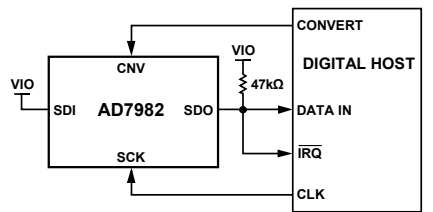
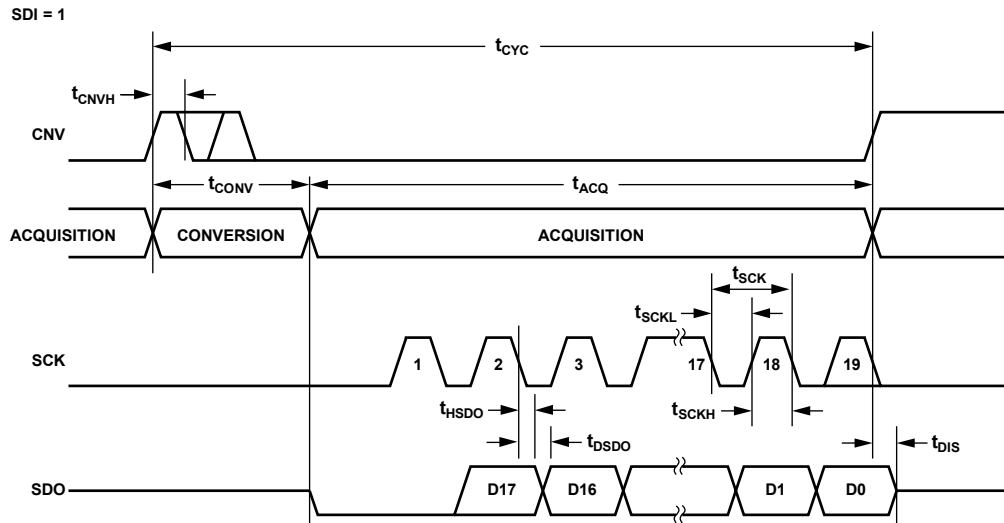
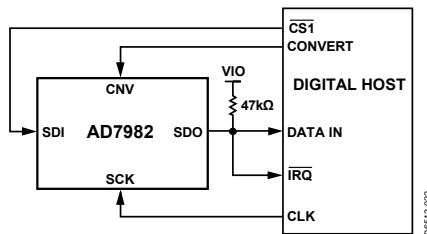
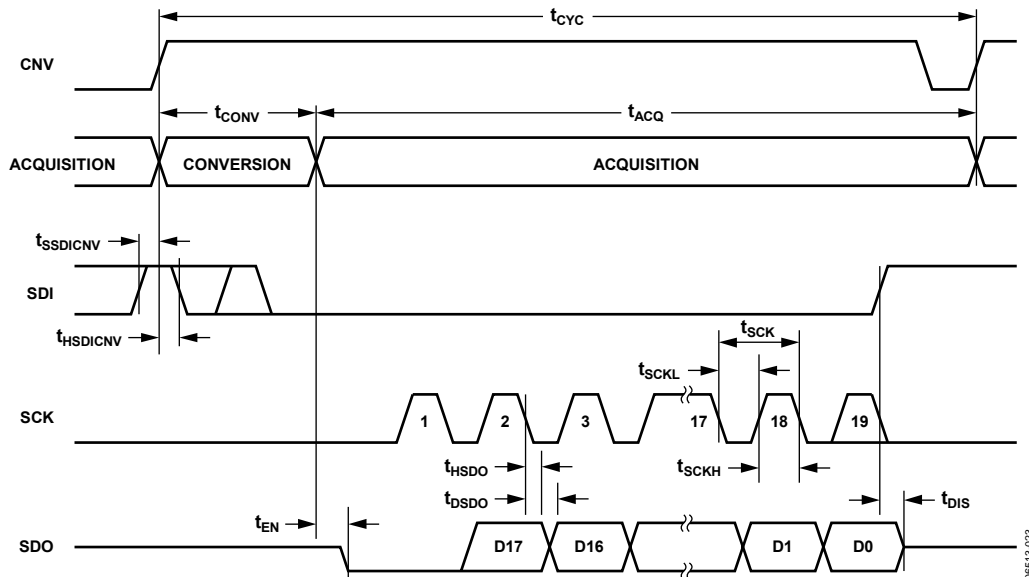

Figure 31.  $\overline{CS}$  Mode, 3-Wire with Busy Indicator Connection Diagram (SDI High)
Figure 32.  $\overline{CS}$  Mode, 3-Wire with Busy Indicator Serial Interface Timing (SDI High)
Figure 35.  $\overline{CS}$  Mode, 4-Wire with Busy Indicator Connection Diagram
Figure 36.  $\overline{CS}$  Mode, 4-Wire with Busy Indicator Serial Interface Timing
- In the  $\overline{\text{CS}}$  mode if CNV or SDI is low when the ADC conversion ends (see Figure 32 and Figure 36).
The connection diagram is shown in Figure 31, and the corresponding timing is given in Figure 32.
The connection diagram is shown in Figure 35, and the corresponding timing is given in Figure 36.